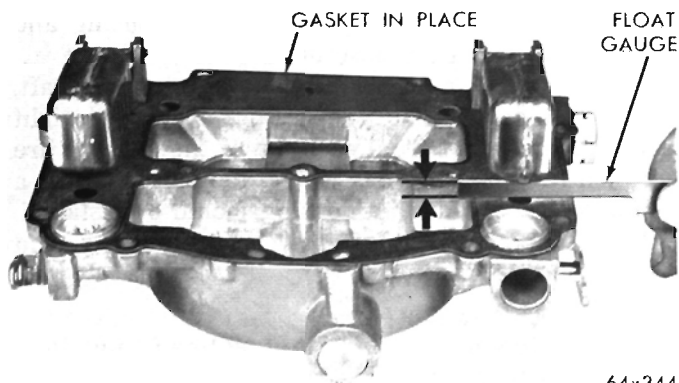

Fig. 10—Checking Float Height
(1) With air horn inverted, air horn gasket in place and the float needle seated, slide float gauge (refer to specifications for carburetor being worked on) between top of the float (at outer end) and air horn gasket, as shown in (Fig. 10). Float should just touch gauge (T109-106).
(2) Check other float in same manner. If an adjustment is necessary, bend float arm using Tool T109-22, until correct clearance has been obtained. After bending arm, recheck the float alignment.